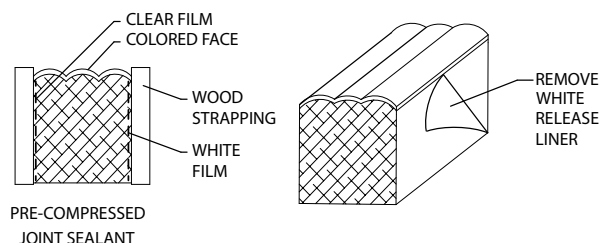

Fig 3
2. To remove 1200 Foam from shrink wrap, cut the plastic packaging by cutting on the hard board along the length of the stick DO NOT cut along the silicone face. Remove hard board and inner release liner. **See Fig 3**
3. Silicone face may be coated in the factory with a release powder. Prior to installation, this agent must be wiped off in order for the finish bead to properly adhere along the edge of the 1200 system. **See Fig 3**
4. Remove the white release liner on the side of the seal (**See Fig 3**) and place the material into the joint, starting at the bottom of the 1200 foam stick, while gently pushing the pressure sensitive adhesive (white film side) up against one side of the joint. Remove clear release liner and allow the material to expand and fill the joint, shim as required if foam expands unevenly. Note: If the PSA is hampering installation, use a spray bottle to wet the adhesive surface of the seal (will not affect the final sealing properties).